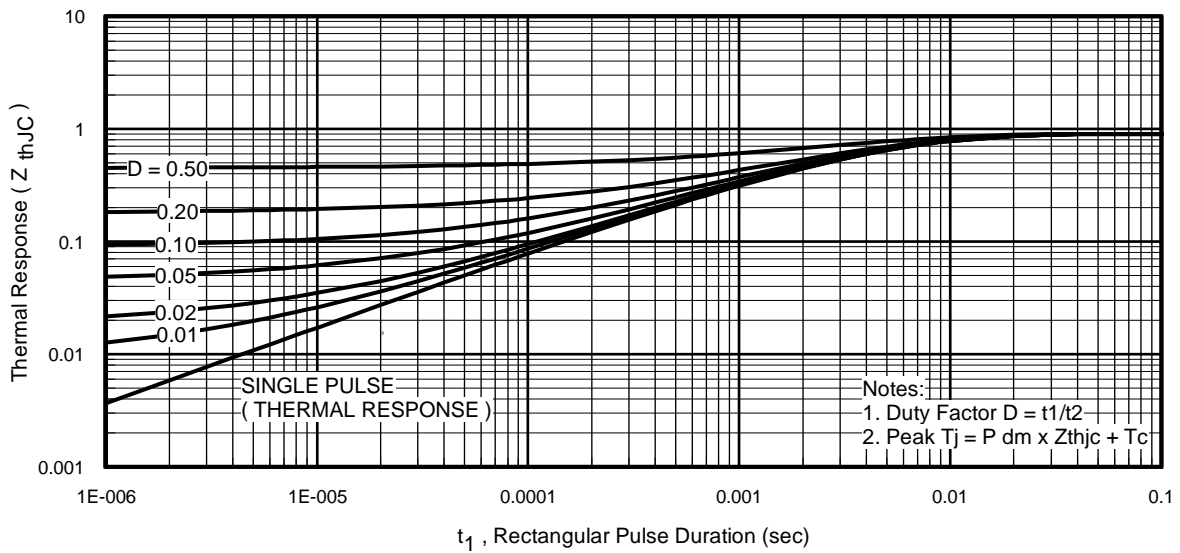
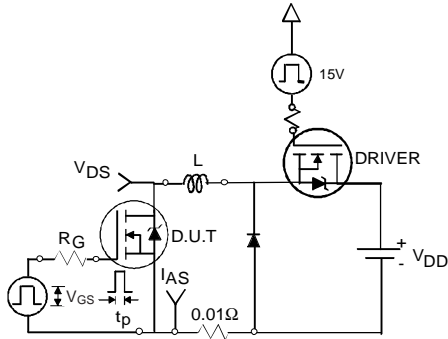

Fig 11. Maximum Effective Transient Thermal Impedance, Junction-to-Case
Fig 12a. Unclamped Inductive Test Circuit
- ① Repetitive rating; pulse width limited by max. junction temperature. (See fig. 11).
- ② Limited by T_{Jmax} , starting $T_J = 25^\circ\text{C}$, $L = 0.12\text{mH}$, $R_G = 25\Omega$, $I_{AS} = 53A$, $V_{GS} = 10V$. Part not recommended for use above this value.
- ③ $I_{SD} \leq 53A$, $di/dt \leq 420A/\mu s$, $V_{DD} \leq V_{(BR)DSS}$, $T_J \leq 175^\circ\text{C}$.
- ④ Pulse width $\leq 1.0\text{ms}$; duty cycle $\leq 2\%$.
- ⑤ $C_{oss\ eff.}$ is a fixed capacitance that gives the same charging time as C_{oss} while V_{DS} is rising from 0 to 80% V_{DSS} .
- ⑥ Limited by T_{Jmax} , see Fig.12a, 12b, 15, 16 for typical repetitive avalanche performance.
- ⑦ This value determined from sample failure population. 100% tested to this value in production.
- ⑧ This is applied to D²Pak, when mounted on 1" square PCB (FR-4 or G-10 Material). For recommended footprint and soldering techniques refer to application note #AN-994.
3. Equation below based on circuit and waveforms shown in Figures 12a, 12b.
$Z_{thJC}(D, t_{av})$ = Transient thermal resistance, see figure 11)